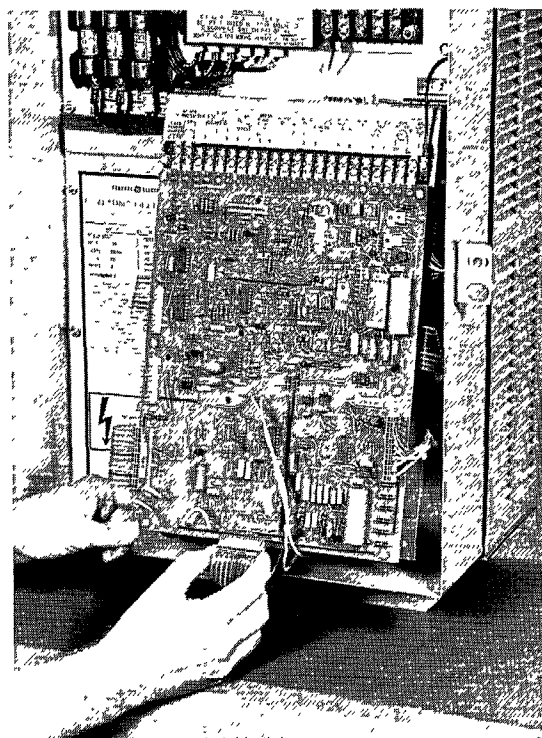

FIGURE 20
This section is supported by a series of photographs (see Figs. 20 through 43) which have been arranged in the column next to the text, to be of assistance during the complete assembly of the AFtrol I controller.
2. Remove ribbon cable connectors 1CN and 4CN from the Regulator (top) Card (see Fig. 20).